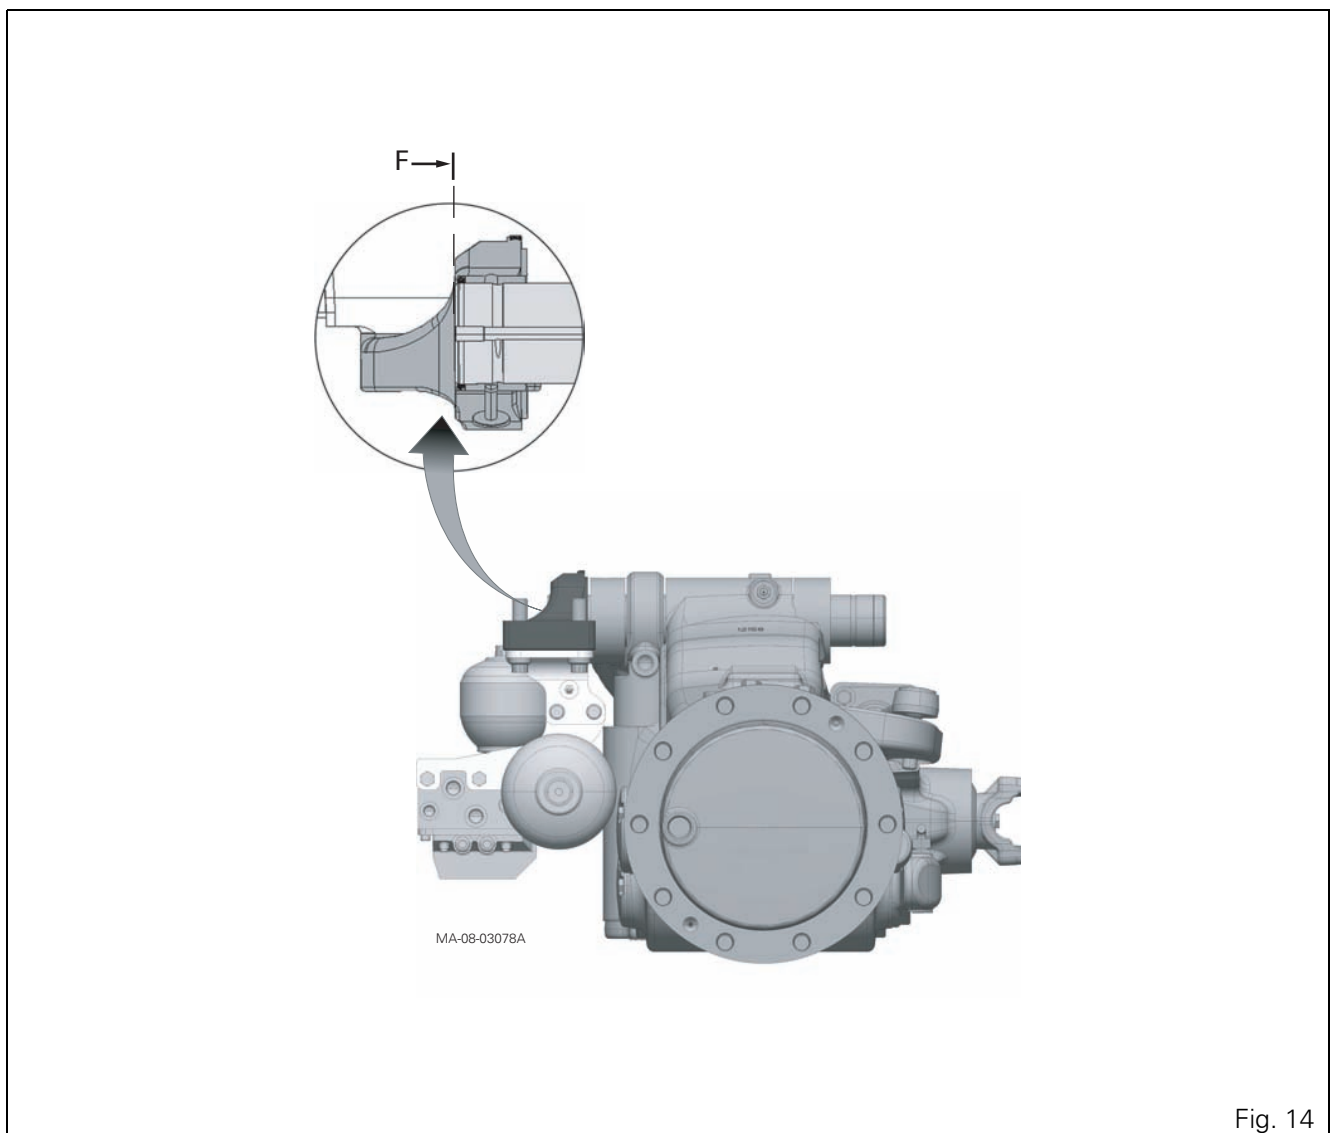

Fig. 14
47. Fit and tighten screws (1), lightly smeared with Loctite 270 or equivalent, to a torque of 560 Nm.
- Check that the front face of pivot pin (1) is almost level with the front edge "F" of the bearing support (2) (Fig. 14).
- the support (2) (first axle beam pivot).